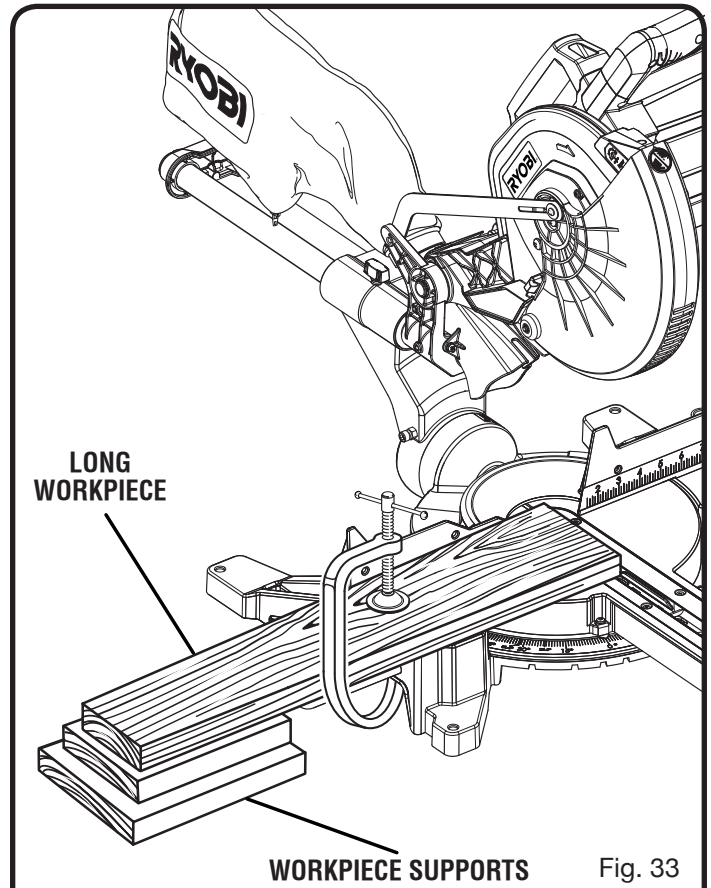

Fig. 33
- When cutting long pieces of lumber or molding, support the opposite end of the stock with a roller stand or with a work surface level with the saw table. See Figure 33.
See Figure 33.
- When cutting long pieces of lumber or molding, support the opposite end of the stock with a roller stand or with a work surface level with the saw table. *See Figure 33.*